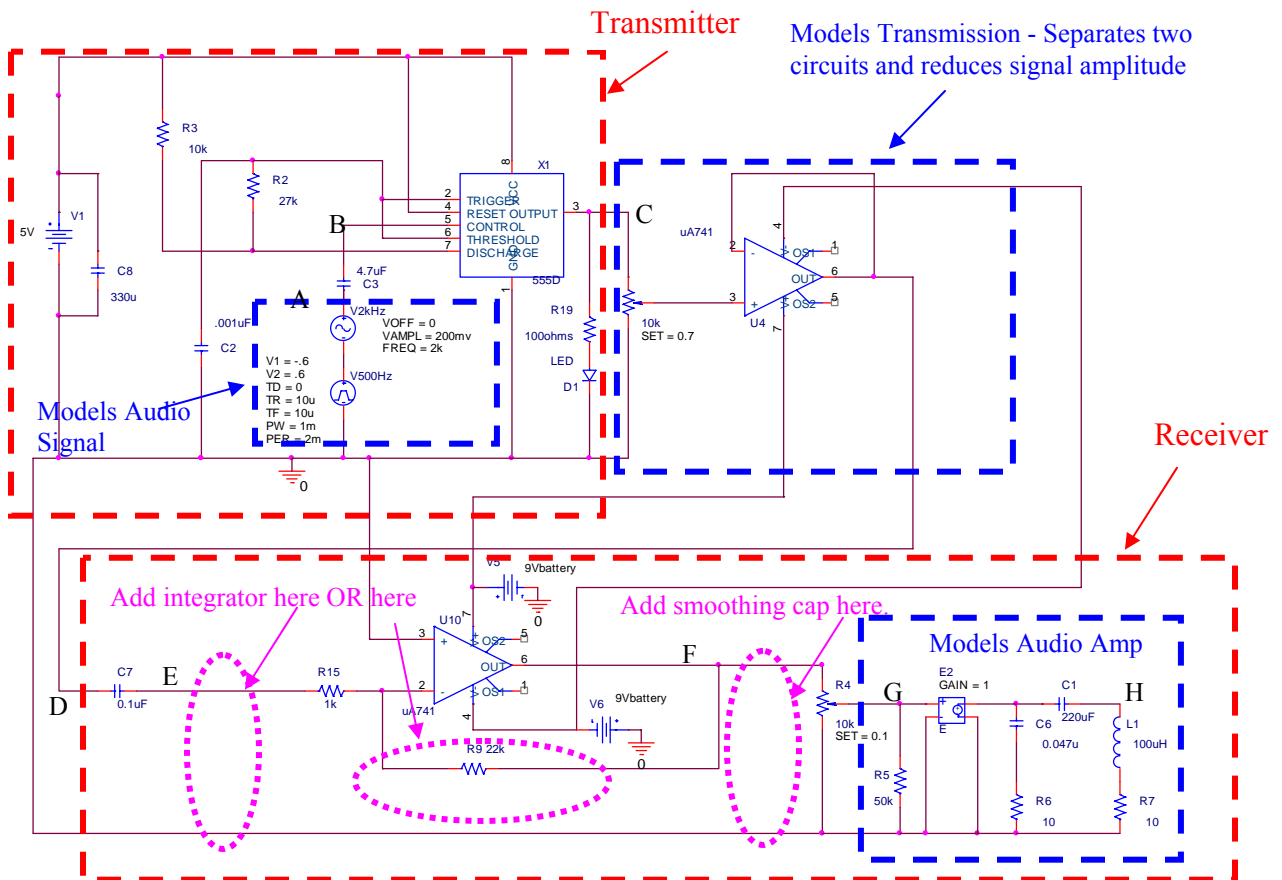

Figure 6
*The model:* Figure 6 shows the different pieces of the model. An audio source is approximated using a small sine wave at 2kHz and a square wave at 500Hz. This helps demonstrate how the circuit works. You may want to run the simulation with only one source on at a time. The transmitter circuit is separated from the receiver circuit with a buffer. (In the real circuit that you build, this separation will be the air through which the light pulses are transmitted. In the simulation, we don't have light or air, but we can at least isolate the two circuits electronically with a buffer.) There is also a pot that creates the difference in amplitude between the pulses generated by the transmitter and the pulses picked up by the phototransistor. The audio amplifier in the receiver is modeled with a different amplifier (E2) than the 386 used in the real circuit. (PSpice does not have a 386). In order to keep the amplitude of the output at the same order of magnitude as the input, the gain on this amplifier (1) is 1/20 of the gain on the 386 without the optional capacitor. The picture also shows the locations you will use to add the circuit elements you need for your final design.
bring out the variation in the amplitude of the original signal. Figure 9 shows the input (point A) and the output (point H) of the PSpice model with an appropriate integrator added. Note that you can still see the sampling pulses, but the output (which is inverted) captures the overall shape of the wave much better. You can see both the shape of the lower frequency and the higher frequency of the input. (These plots are for a pair of sine wave inputs, one at 500Hz and one at 4kHz. You can choose to do these frequencies or use the sine wave and square wave signals as shown in figure 6.